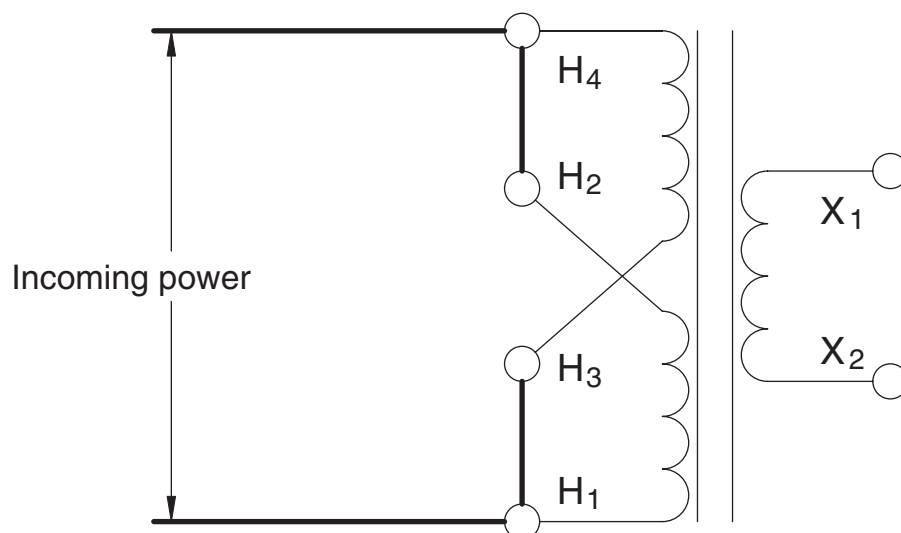

Figure 19-9 High-voltage windings connected in parallel.
4. The $H_1 - H_2$ terminals are connected to one of the high-voltage windings and the $H_3 - H_4$ terminals are connected to the second high-voltage winding. Each of these windings is rated at 240 volts. When this transformer will be connected for 240 volt operation, the two high-voltage windings are connected in parallel to form one winding by connecting H_1 to H_3 and H_2 to H_4 , as shown in Figure 19-9. This will provide a 2:1 turns-ratio with the low-voltage winding.
5. Connect the two high-voltage windings for parallel operation as shown in Figure 19-9. Assume a voltage of 208 volts is applied to the high-voltage windings. Compute the voltage that should be seen on the low-voltage winding between terminals X_1 and X_2 .
6. Make certain that the incoming power leads are connected to terminals H_1 and H_4 as shown in Figure 19-9. Apply a voltage of 208 volts to the transformer and measure the voltage across terminals X_1 and X_2 .